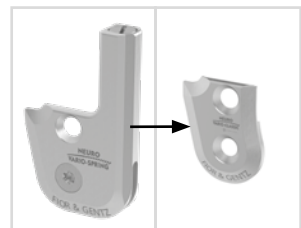

fig. 28
- 2 Mount the cover plate of the NEURO VARIO-CLASSIC system joint in the correct system width (fig. 28).